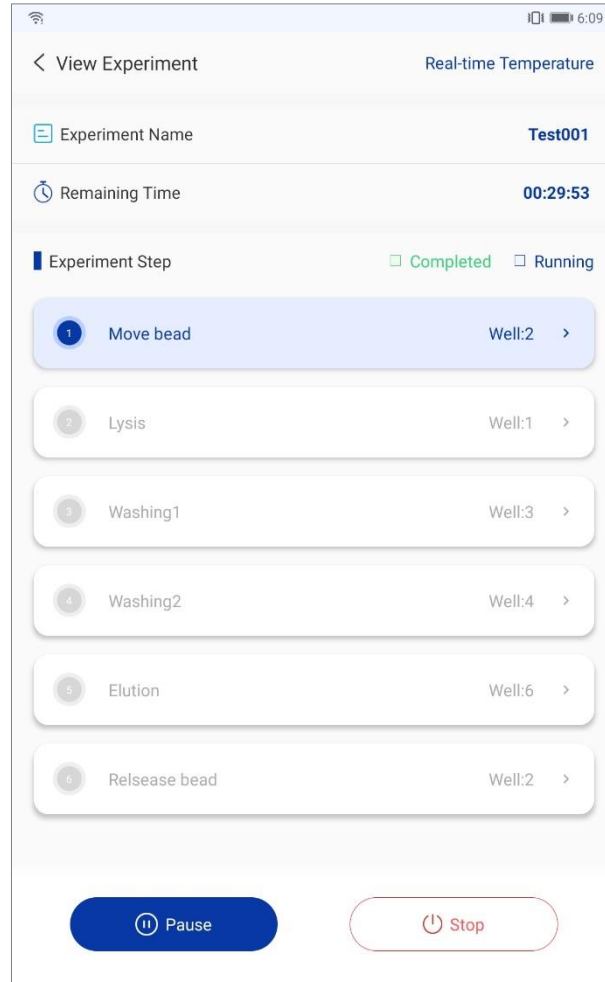

Figure 5-5. Experiment Interface - Run Experiment
- 4. **Run Test:** select any experiment on the experiment interface and click < **Run** > to enter the Experiment running interface, as shown in figure 5-5.
- 4) After placing the consumables, user can select the experiment on the Experiment interface and click < **Run** >, as shown in Figure 5-5. For detail operation instructions, please refer to 5.2.1 Experiment Interface – Run Experiment.